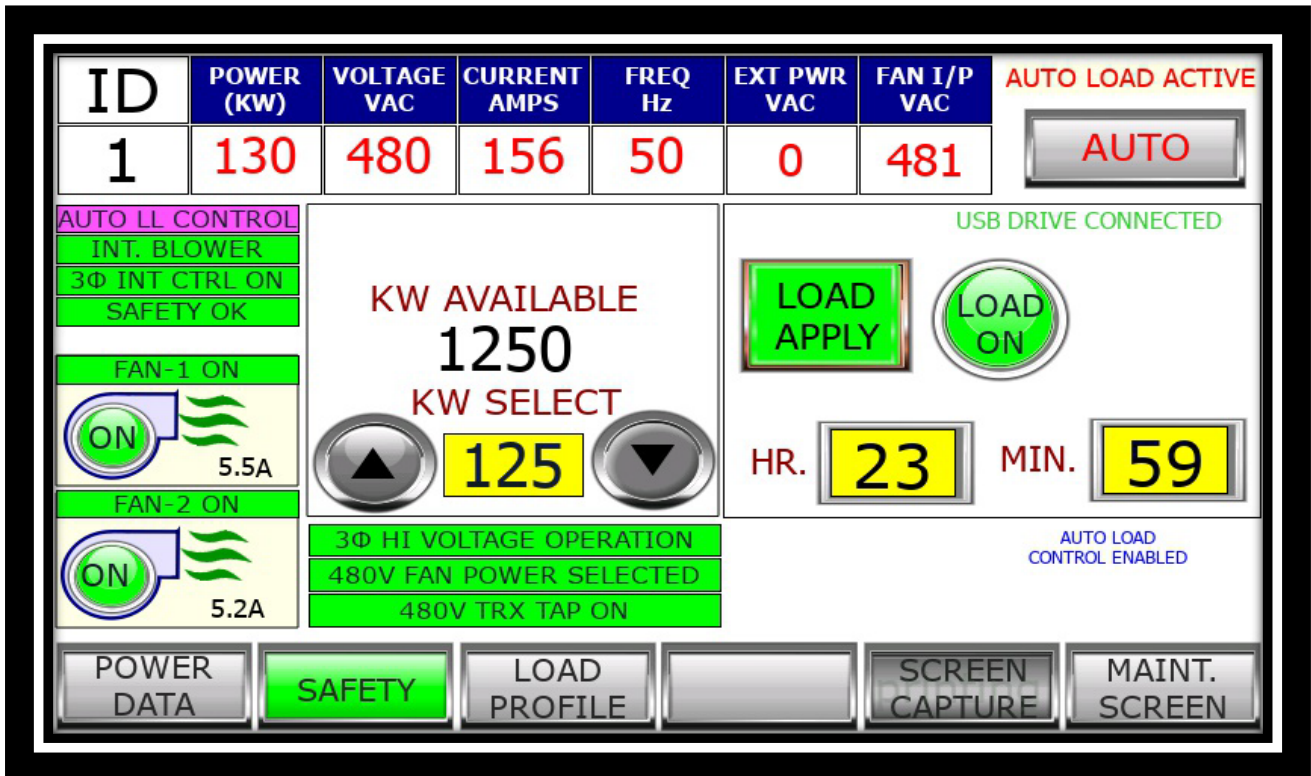

Figure-24 Main Screen
- 1) screen will flash "TOC ACTIVATED" message above <AUTO/NORMAL> button for few seconds and then message will change to "Auto Load Active" (see figure-24),